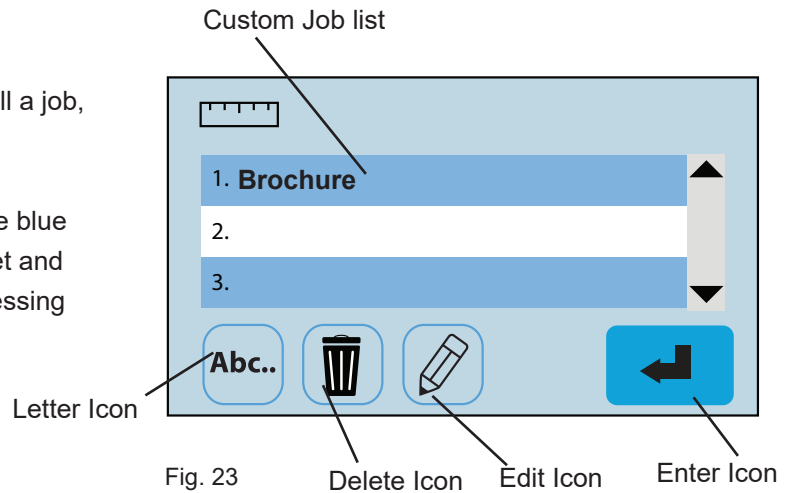
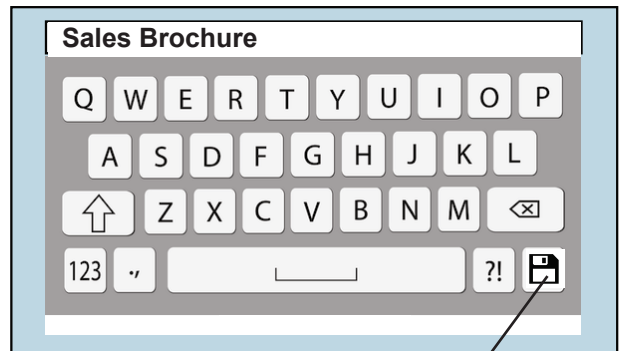
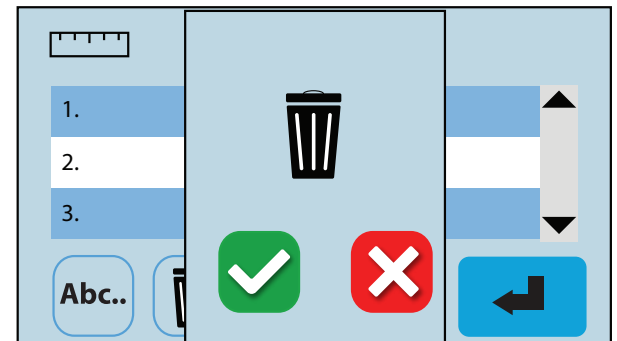
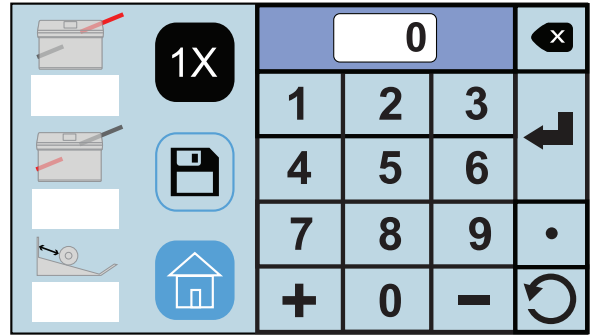

Fig. 23
Fig. 24
Fig. 25
Fig. 26
To recall select the job from the list and press the blue enter button  (Fig. 23). The fold will be set and then will return to the home screen to start processing the job.
3. To rename a job, select the job from the list and press the letter icon  (Fig. 23). Use the keypad to change the name and press the save icon in the lower right corner (Fig. 24).
4. To delete a job, select the job from the list and press the delete icon  (Fig. 23). On the confirmation screen press the green box with the check to confirm the deletion or press the red box with the X to cancel the deletion (Fig. 25).
5. To edit a previously saved job, select the job from the list and press the edit icon  (Fig. 23). From the fold setup screen use the same process as setting a custom fold to edit the job settings (Fig. 26). See page 11 for measuring guidelines.